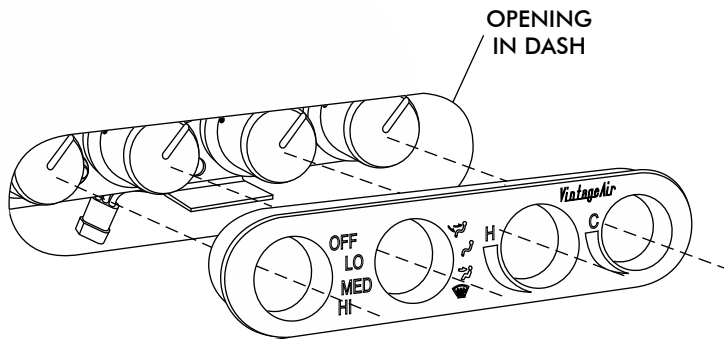

FIGURE 2
- INSTALL FACE IN DASH AND REINSTALL CONTROL PANEL BRACKET WITH SWITCHES. SEE FIGURE 2 & 2a, PAGE 5